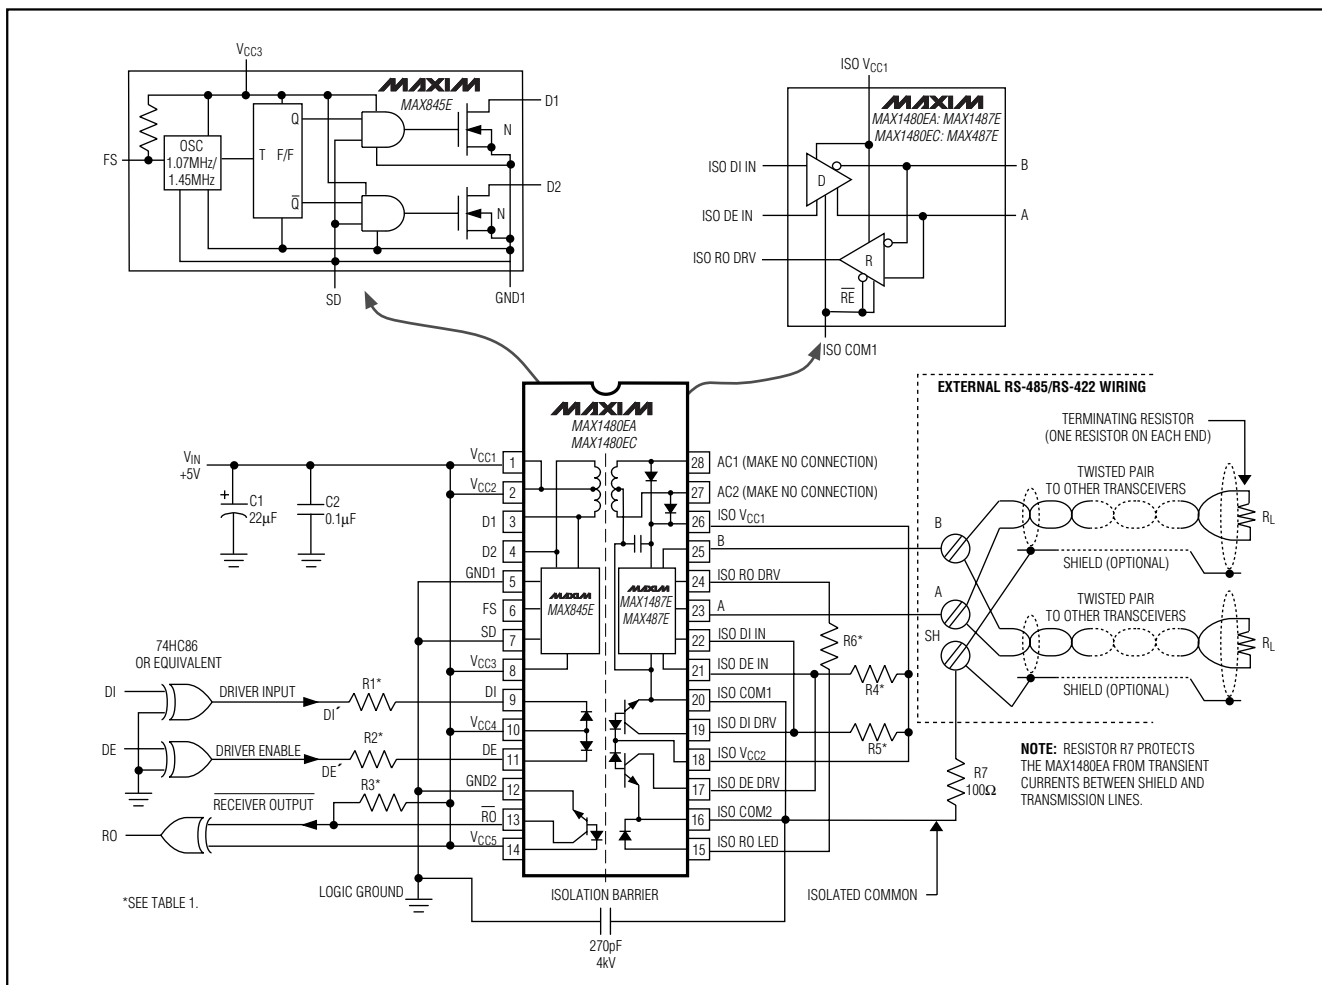

Figure 1. MAX1480EA/MAX1480EC Detailed Block Diagram and Application Circuit
**Note 2:** For DE+ and DI+ pin descriptions, see *Detailed Block Diagram and Typical Application Circuit* (Figure 1 for MAX1480EA/MAX1480EC, Figure 2 for MAX1490EA/MAX1490EB).
( $V_{CC-} = +5\text{V}$ ,  $V_{FS} = V_{CC-}$ , Figures 1 and 2,  $T_A = +25^\circ\text{C}$ , unless otherwise noted.)
( $V_{CC-} = +5V$ ,  $V_{FS} = V_{CC-}$ , Figures 1 and 2,  $T_A = +25^\circ C$ , unless otherwise noted.)
( $V_{CC-} = +5V$ ,  $V_{FS} = V_{CC-}$ ,  $V_{DI} = 0$ ,  $DE$  toggled 0 to 5V at 5kHz, Figures 1 and 2,  $T_A = +25^{\circ}C$ , unless otherwise noted.)
**Note:** For DE+ and DI+ pin descriptions, see Detailed Block Diagram and Typical Application Circuit (Figure 1 for MAX1480EA/MAX1480EC, Figure 2 for MAX1490EA/MAX1490EB).
The MAX1480EA/MAX1480EC/MAX1490EA/MAX1490EB are complete, electrically isolated, RS-485/RS-422 data-communications interface solutions. Transceivers, optocouplers, a power driver, and a transformer in one standard 28-pin DIP package (24-pin package for the MAX1490EA/MAX1490EB) provide a complete interface. Signals and power are internally transported across the isolation barrier (Figures 1, 2). Power is transferred from the logic side (nonisolated side) to the isolated side of the barrier through a center-tapped transformer. Signals cross the barrier through high-speed optocouplers. A single +5V supply on the logic side powers both sides of the interface. The MAX1480EA/MAX1480EC offer half-duplex communications while the MAX1490EA/MAX1490EB feature full-duplex communication. The functional input/output relationships are shown in Tables 3 through 6.
**Table 1. Pullup and LED Drive Resistors for Figure 1**
\* For DE′ and DI′ pin descriptions, see Detailed Block Diagram and Typical Application Circuit (Figure 1 for MAX1480EA/MAX1480EC, Figure 2 for MAX1490EA/MAX1490EB).
The ±15kV ESD test specifications apply only to the A, B, Y, and Z I/O pins. The test surge may be referenced to either the ISO COM or to the nonisolated GND (Figures 1 and 2).